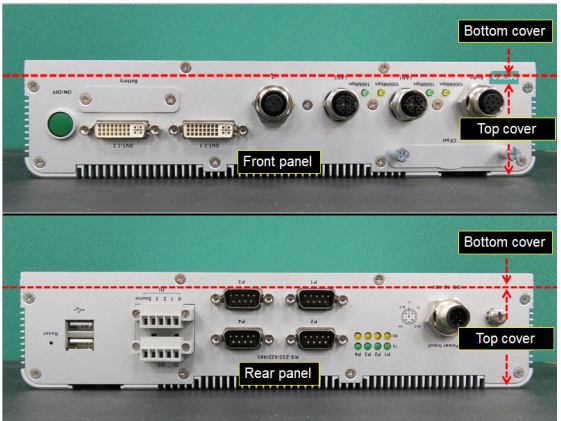

Figure 1
4.1.1 Place the V2406A upside down on the working area as shown in Figure 1.